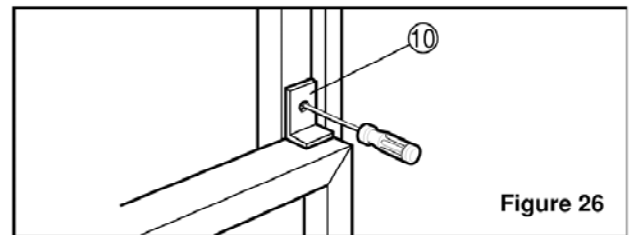

Figure 26
12. Attach the window locking bracket ⑩ with a type C screw. (See Fig. 26)